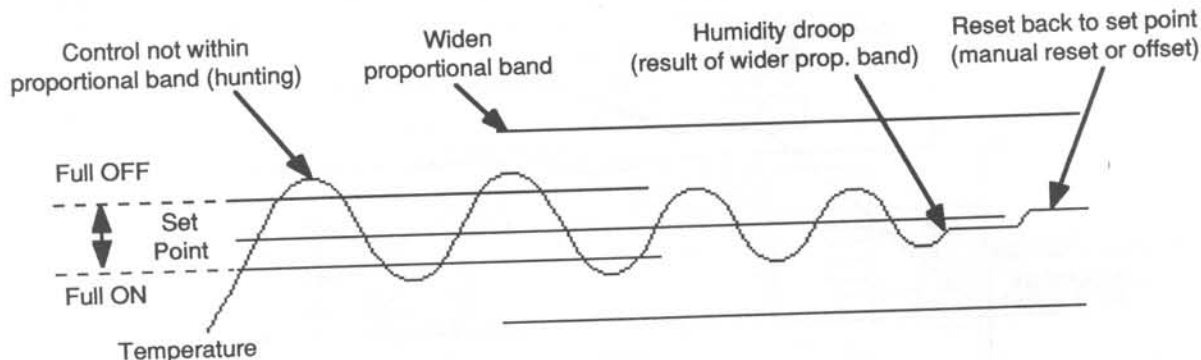

Figure 15 - PI Adjustment Graph For Humidity
8. **Oscillation or Hunting** - Unstable operation occurring if the proportional band is too narrow or the system is upset by some outside source. See Figure 15 on Page 12.